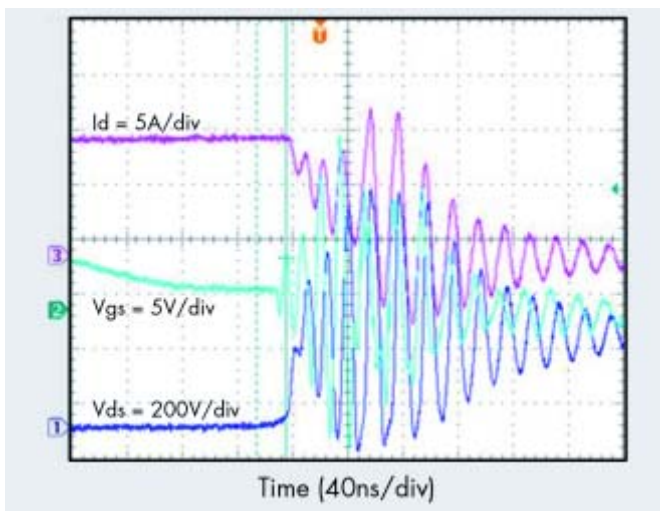
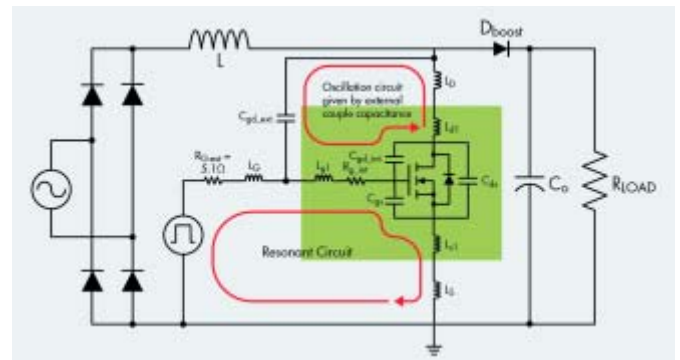

Figure 2: Severe oscillation waveforms in PFC circuit using super-junction MOSFET
Figure 3: Simplified schematic of PFC circuit with internal and external parasitics of Power MOSFET
$C_{oss}$  curve of super-junction MOSFET is highly non-linear. These effects will allow an extremely fast  $dv/dt$  and  $di/dt$  and voltage and current oscillation when super-junction MOSFETs are used as a switching device for PFC or DC/DC converters. Figure 2 shows observed oscillation waveforms in PFC circuit during turn-off transient of super-junction MOSFET. From a general perspective, there are several oscillation circuits which affect the switching behavior of the MOSFET this includes internal and external oscillation circuits. Figure 3 shows a simplified schematic of PFC circuit including both internal parasitics which is given by the parasitic capacitances  $C_{gs}$ ,  $C_{gd\_int}$  and  $C_{ds}$  and parasitic inductances,  $L_{g1}$ ,  $L_{d1}$  and  $L_{s1}$  of the Power MOSFET itself and also an external oscillation circuits which is given by the external couple capacitance  $C_{gd\_ext}$  and parasitic inductances,  $L_G$ ,  $L_D$  and  $L_S$  of the board layout. Parasitic components are involving switching characteristics more as the switching speed is getting faster. Gate parasitic oscillation occurs in a resonant circuit by internal and external gate-drain capacitance,  $C_{gd\_int}$  and  $C_{gd\_ext}$ , and gate inductance,  $L_{g1}$  and  $L_G$ , when MOSFET is turned on and off. Oscillation voltage in drain-source of the MOSFET passes through gate-drain capacitance,  $C_{gd}$  due to parasitic inductance,  $L_D$  when MOSFET switching is getting fast, and particularly when it is turned off, and a resonant circuit with gate inductance  $L_{g1}$  and  $L_G$  is formed. As gate resistor is extremely small, oscillation circuit,  $Q (\sqrt{L/C/R})$  becomes large, and when the resonance condition occurs, a large oscillation voltage is generated between that point and  $C_{gd}$  or  $L_G$ ,  $L_{g1}$ , and parasitic oscillation is caused. Furthermore, the voltage drop across  $L_S$  and  $L_{s1}$ , which can be represented by equation (1), was cause by negative drain current in turn-off transient. This voltage drop across stray source inductances,  $L_S$  and  $L_{s1}$ , generates oscillation in gate-source voltage. The parasitic oscillation can cause severe EMI problem, large switching losses, gate-source breakdown, losing gate control and can even lead to MOSFET failures.